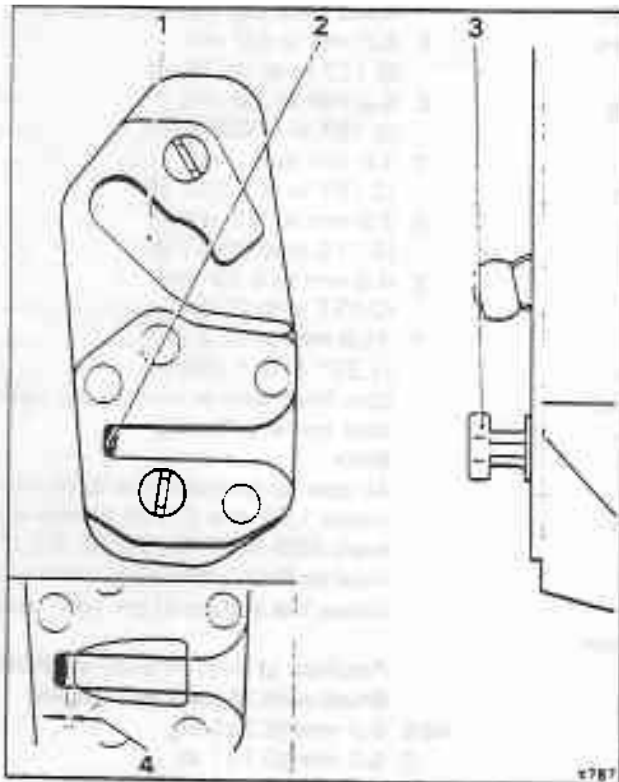

Fig. S4-5 Striker plate
11. With the door closed, check the amount of inboard/outboard movement of the door in the striker plate (i.e. the door overtravel). Door overtravel is determined by the relationship between the inner face of the door lock anti-burst flange and the rubber buffer located in the striker plate (see fig. S4-5, item 4).
If there is insufficient overtravel when closing the door (i.e. the door is hard to close) this is probably caused by excessive contact between the anti-burst flange and the rubber buffer (see fig. S4-5). However, check for other causes such as the door seal fouling, before moving the striker plate. If necessary, reduce the contact of the anti-burst flange and rubber buffer by carefully twisting the striker plate inboard about its upper securing screw up to a maximum of two serrations.